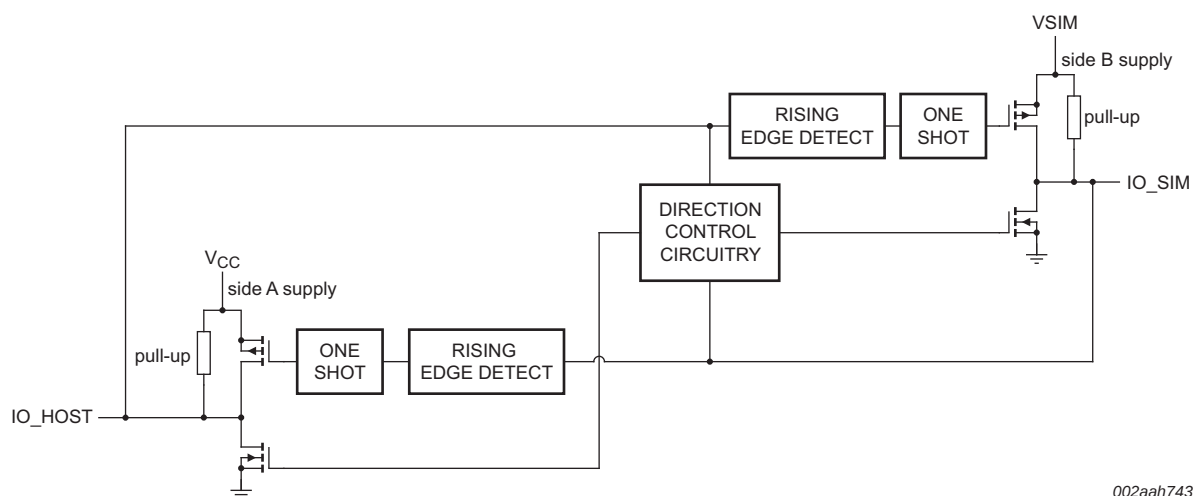

Fig 8. Automatic direction control level translator for HIGH-level direction change interfaces
[3] See Figure 8 for details.
The architecture of the NVT4555 I/O channel is shown in Figure 8. The device does not require an extra input signal to control the direction of data flow from host to SIM or from SIM to host. As a change of driving direction is just possible when both sides are in HIGH state, the control logic is recognizing the first falling edge granting it control about the other signal side. During a rising edge signal, the non-driving output is driven by a one-shot circuit to accelerate the rising edge. In case of a communication error or some other unforeseen incident that would drive both connected sides to be drivers at the same time, the internal logic automatically prevents stuck-at situation, so both I/Os will return to HIGH level once released from being driven LOW.
• Table 3 "Pin description": – description for CTRL pin corrected from "VSIM = 3 V" to "VSIM = 2.95 V" – description for VSIM pin corrected from "3 V (CTRL = 1)" to "2.95 V (CTRL = 1)" – description for IO_HOST pin corrected from "open-drain configuration" to "open-drain driver" – deleted 4 "n.c." rows from table (correction) • Table 4 "Function selection": VSIM output voltage for selection "11" corrected from "3.0 V" to "2.95 V" • Figure 6 "NVT4555 application circuit interfacing with typical SIM card" supply voltage corrected from "V_{CC} (1.1 V to 3.0 V)" to "V_{CC} (1.1 V to 3.6 V)" • Figure 8 "Automatic direction control level translator for HIGH-level direction change interfaces": – corrected connection for 2 (P-type channel) transistors – corrected signal name from "IO_HOST/EN" to "IO_HOST"